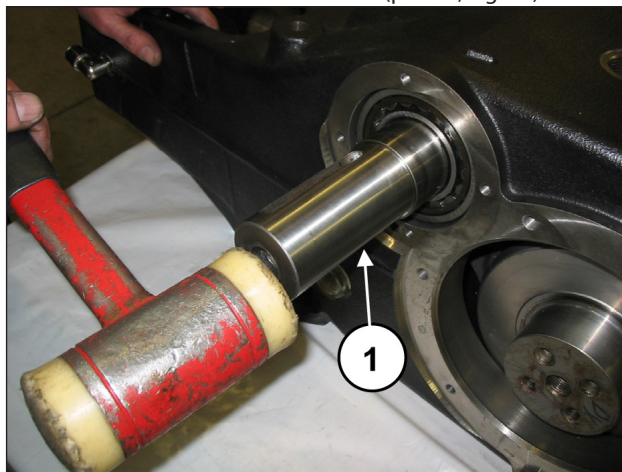
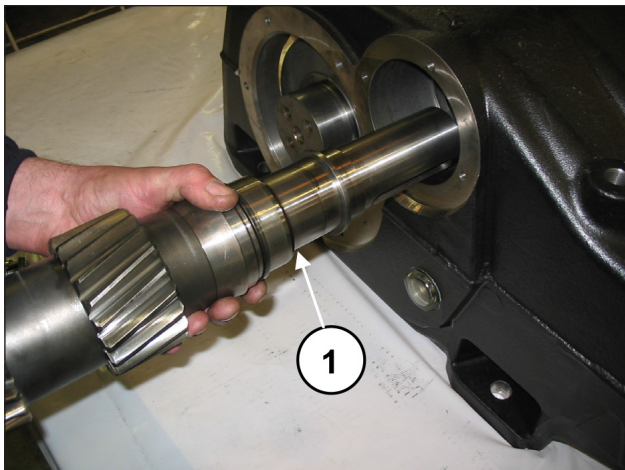

Fig. 32
Fig. 33
Using an extractor hammer (pos. ①, Fig. 32) take out the PTO shaft from either one of the two sides (pos. ①, Fig. 33).